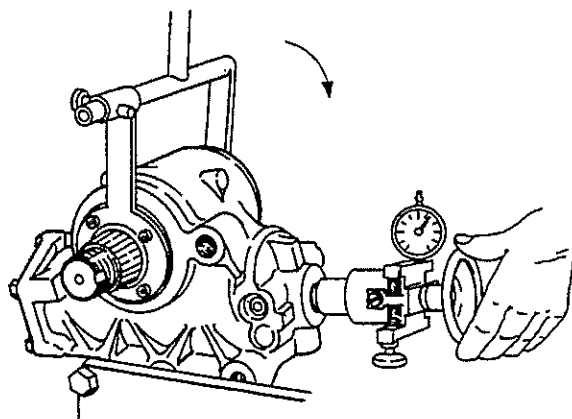

Fig.38
Turn both housing covers (4) with tools [18] and [19], keeping the same angle (in the direction of the arrow), until the required increase in friction torque is obtained (**Fig.38**).